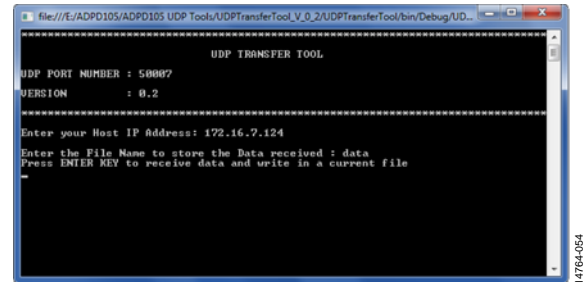

Figure 57. Entering a File Name to Store Data
5. Enter a file name to save the raw data from the ADPD103_ADPD105 OpenMarket WaveTool and press enter (see Figure 57).